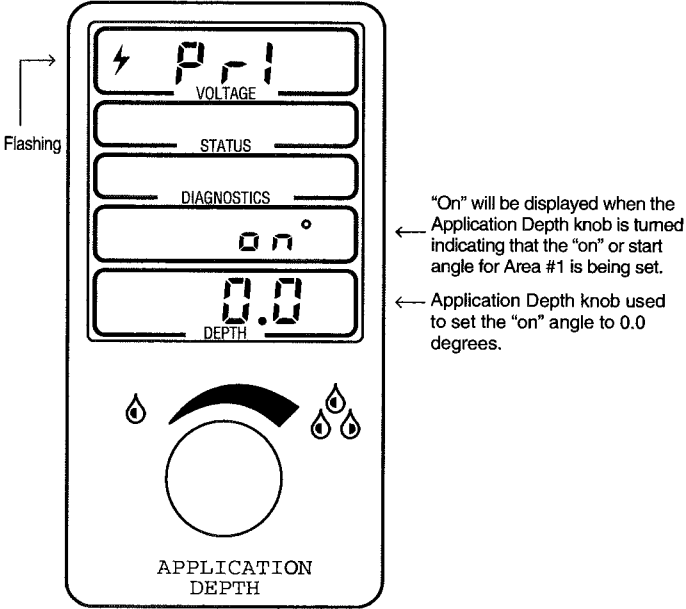

Figure 2.27
1. Turn the Application Depth knob to select the value of the start or "ON" angle for area #1 (0.0 degrees in this example). Notice that the area of the screen in figure 2.27 which shows the value of the angle setting will be blank until the operator turns the knob. It will then display values starting from zero degrees and is adjusted from 0.0 degrees by turning the knob to either increase or decrease the
angle value. "on" is also displayed in the second screen from the bottom to remind the operator that an "on" or "start" angle for area #1 is being set. In this example, the "on" angle will be set to 0.0 degrees as illustrated in figure 2.27.